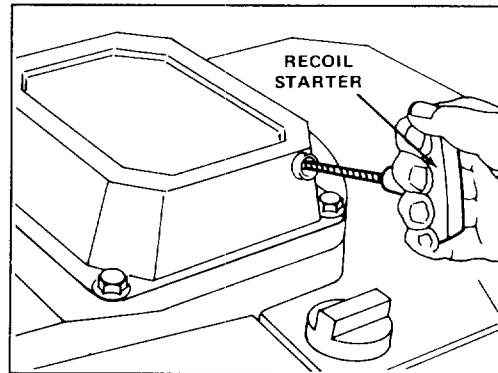

Figure 10
4. Move throttle to CHOKE. Pull engine mounted fingertip starter out until positive engagement results; then pull vigorously to start the engine (Fig. 10). Regulate throttle as desired when engine starts. When temperature is near 40°F, a few extra pulls may be required because the engine needs priming.